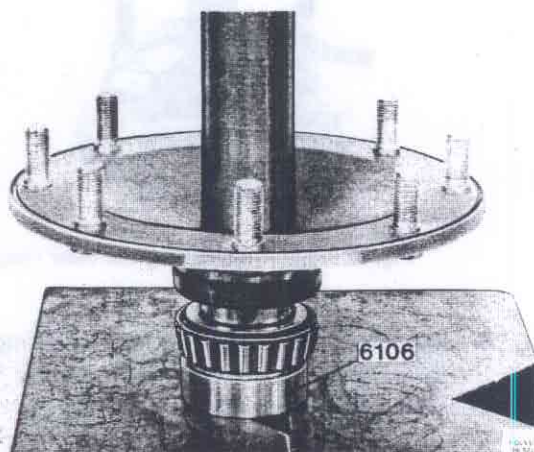

Fig. 77-13. Installing the outer bearing inner ring
7. Press on the outer bearing inner ring with sleeve 6106, see Fig. 77-13.
5. Press on the new wear ring and the bearing inner ring on the stub axle with press ring 6106, Fig. 77-13.